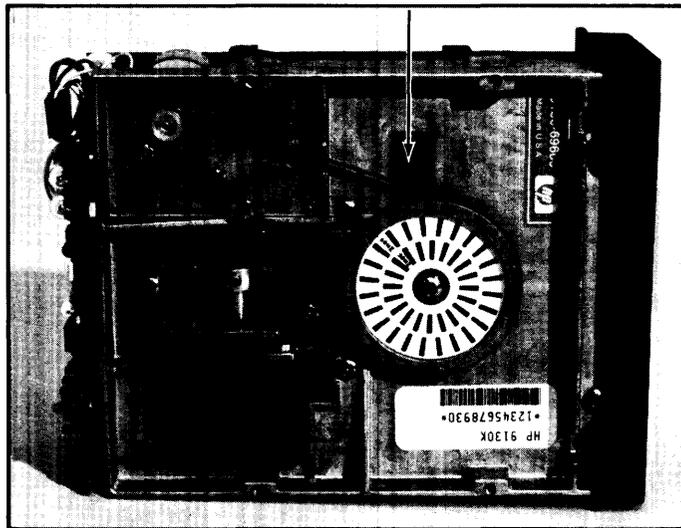

Figure 5-9: Index Detector Retaining Screw
9. Loosen the index detector retaining screw (Figure 5-9) and move the detector until the INDEX to DATA burst time is approximately $400 \mu\text{s} \pm 300 \mu\text{s}$ for head 0.